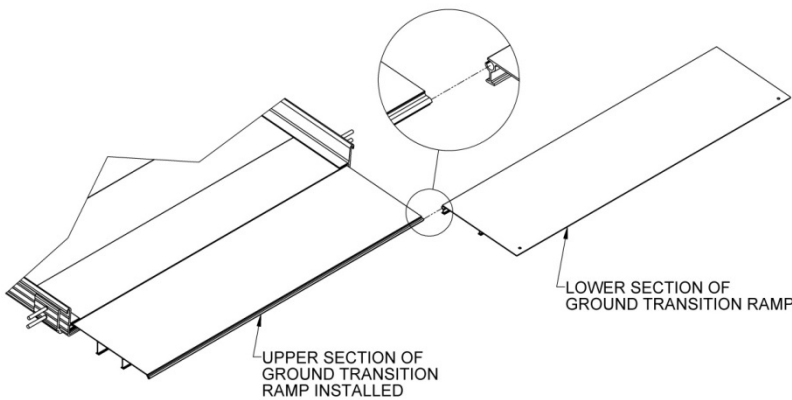

FIG. 3.12
3.4.3. Slide the lower section ground transition ramp into upper section (FIG. 3.12).